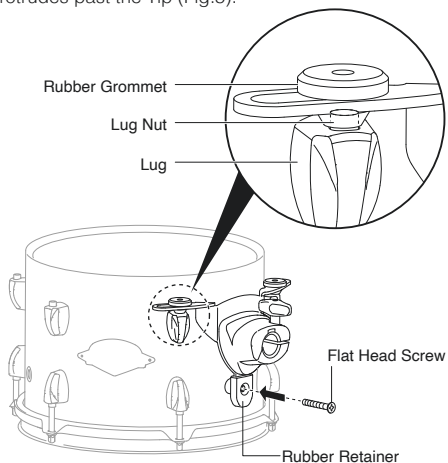

Fig.5
5. Align the Opti-Loc to the air vent and corresponding right / left lugs so the Rubber Grommets rest on the Lug Nuts and the Rubber Retainer Tip is fully inserted into the air vent of the drum. Next, insert the Flat Head Screw into the Rubber Retainer so the threaded end protrudes past the Tip (Fig.5).